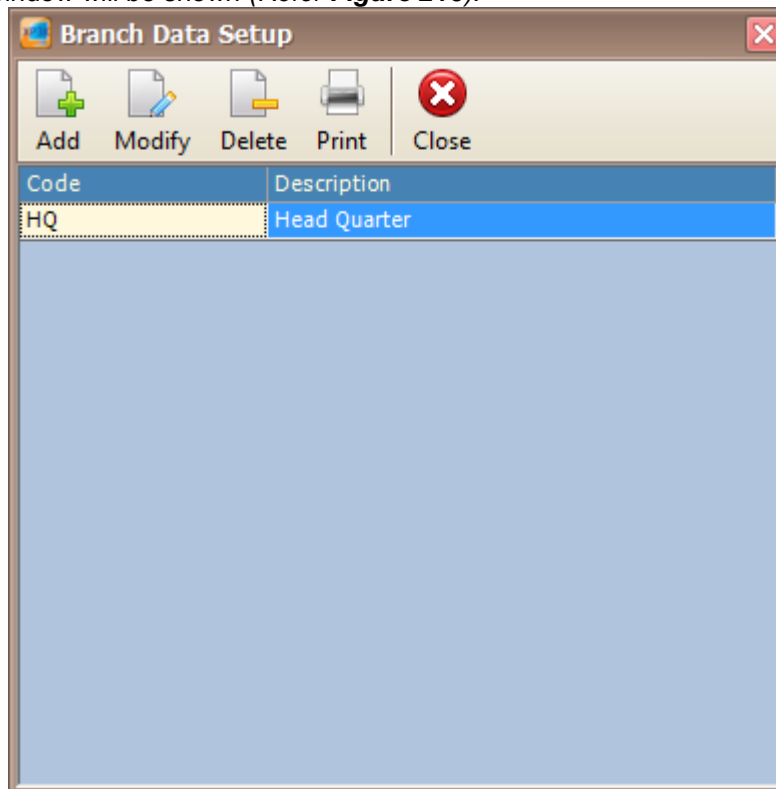

Figure 216 - Branch Setup
2. The following window will be shown (Refer **Figure 216**).